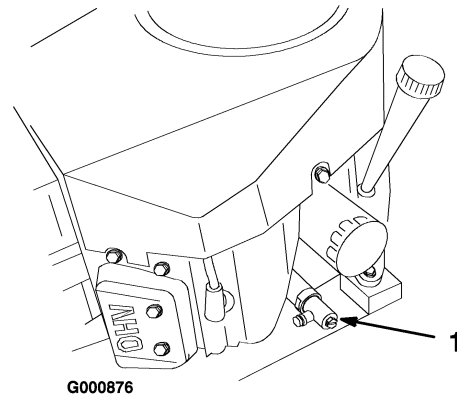

Figure 22
5. Slide the drain hose over the oil drain valve (Figure 22).
6. Place a pan below the oil drain hose. Use either a flat screw driver, 3/8 inch (10 mm) wrench to open valve (Figure 22).
7. Rotate valve end counterclockwise to open valve (Figure 22).
8. When oil has drained completely, rotate valve end clockwise to close the valve (Figure 22).
10. Clean around the oil dipstick and unscrew the cap (Figure 22).
11. Slowly pour approximately 80% of the specified oil into the filler cap (Figure 22). Refer to Servicing the Engine Oil, in Engine Maintenance, page 21.